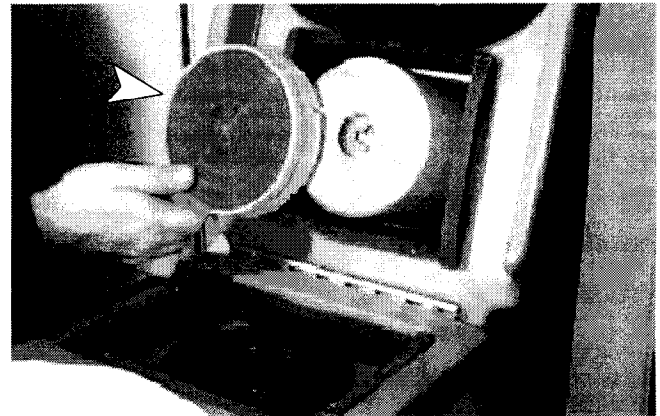

FIG. 14.
1. Clean secondary filter weekly. Tap or blow off dust buildup. DO NOT clean with water or solvent. Filter is located on the vacuum motor as shown. Replace filter as needed. (Figure 14.)